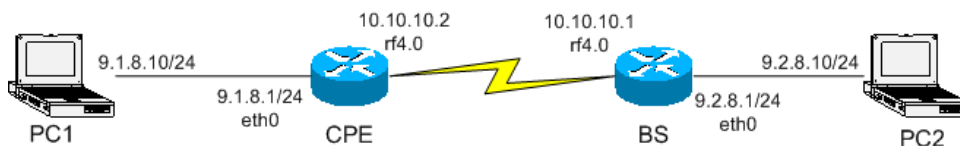

Figure 19a. Sample network (PtP connection)
In our point-to-point configuration example we will built a simple network as shown in Figure 19a.
*All configuration samples and notes will use IP-addresses and names as specified in Figure 19a.*